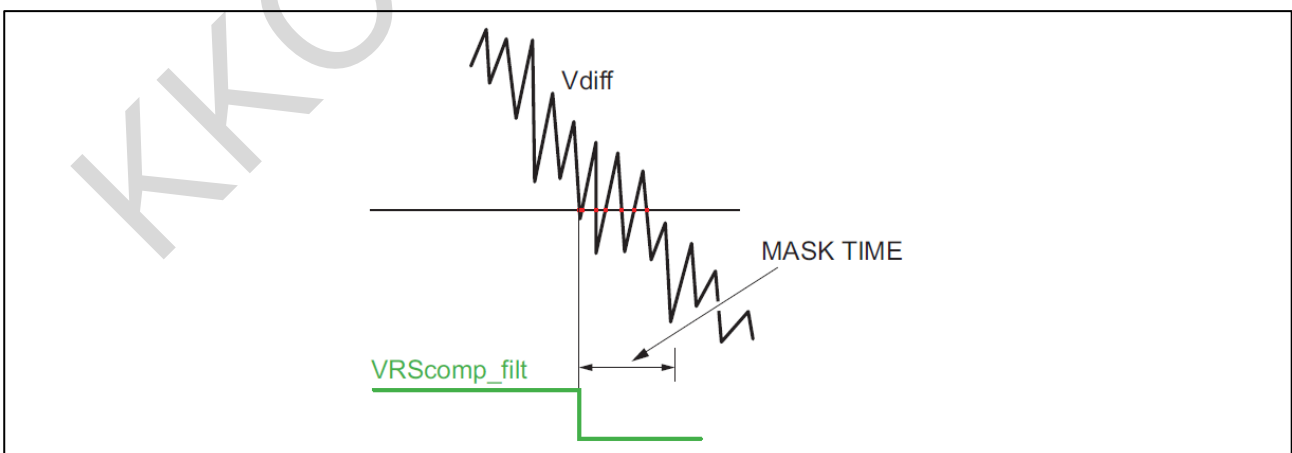

Figure 11-6 *EN\_FALLING\_FILT* = 0
*EN\_FALLING\_FILT* = 0: VRS\_OUT is de-asserted at first zero crossing transition of differential signal and next eventual commutations are ignored for  $T_{\text{filter}}$  time. See Figure 11-6.